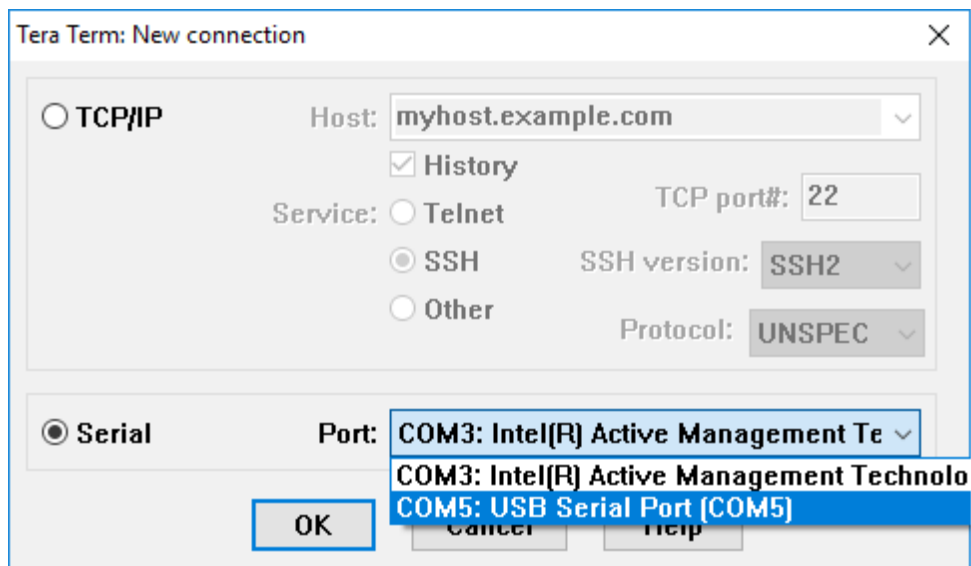

Figure 7.2: Terminal - new connection
2. Run on computer any program that allows you to communicate via serial interface, for example: *TeraTerm* (figure 7.2)